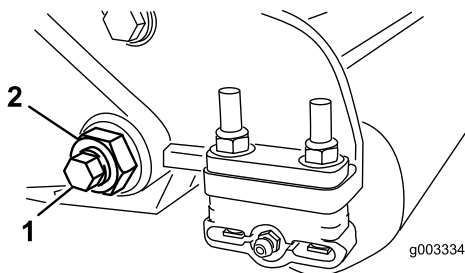

Figure 24
3. On each side of the machine, loosen the locknut securing the bedbar bolt (Figure 24).
4. Remove each bedbar bolt allowing the bedbar to be pulled downward and removed from the cutting unit (Figure 24).